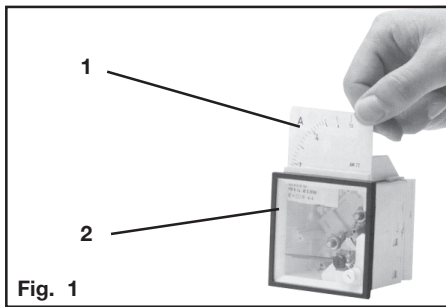

Fig. 1
On measuring instruments for c.t. connection n/ 1A (fig. 1, item 2, page 12) the interchangeable scales can be changed via a flap arranged on the upper part of the measuring instrument (fig. 1, item 1, page 12).